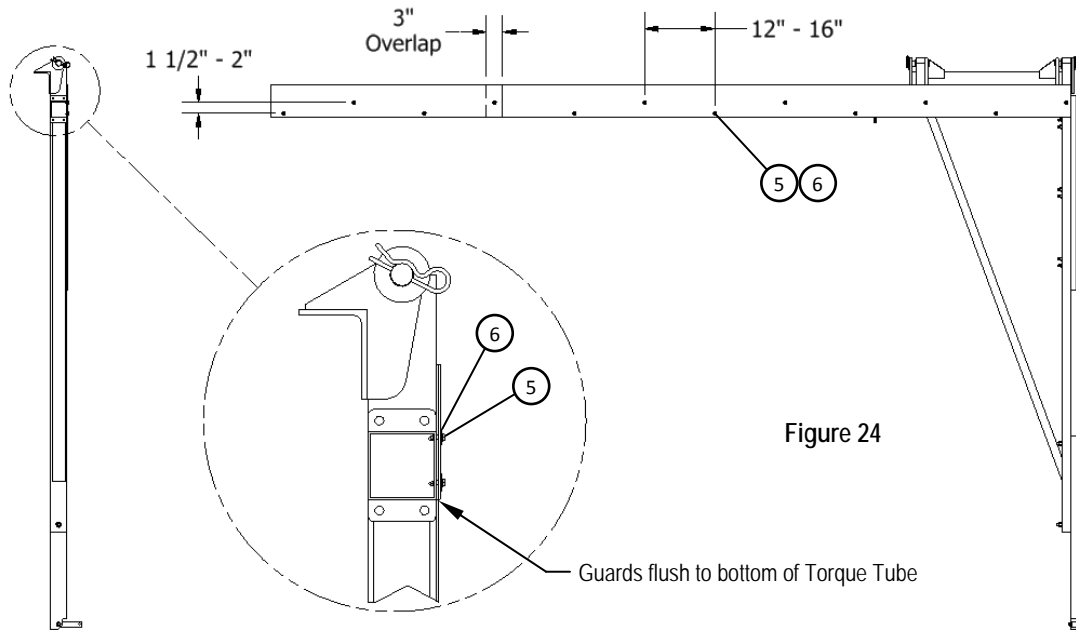

Figure 24
17. Wrap Tarp around Cable and secure with zip ties (4) every 12".
18. Fold front and rear corners back about 12" and secure with zip ties (4).
19. See Figure 24. Starting at the front of the trailer, place Guard over Tarp and flush to the bottom of Torque Tube and attach using #12 x 1" TEK screws (5) and 1/4 flat washer (6) ever 12" - 16" along length and staggered 1 1/2" - 2" top to bottom.
20. See Figure 24. Continue the length of the trailer, over lap Guards 3", keep flush to the bottom of Torque Tube and attach using #12 x 1" TEK screws (5) and 1/4 flat washer (6) ever 12" - 16" along length and staggered 1 1/2" - 2" top to bottom.
21. At the rear of the trailer, over lap Guards 3" and cut length, keep flush to the bottom of Torque Tube and attach using #12 x 1" TEK screws (5) and 1/4 flat washer (6) ever 12" - 16" along length and staggered 1 1/2" - 2" top to bottom.